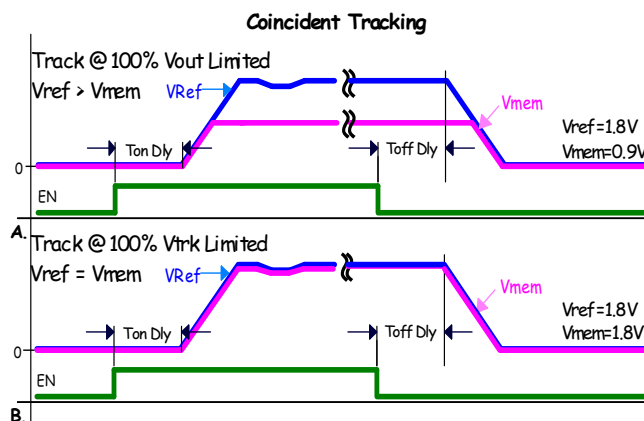

FIGURE 22. COINCIDENT TRACKING
voltage Figure 22 (A).
- Track at 100% VTRK limited. Member rail tracks the reference at the instantaneous voltage value applied to the VTRK pin Figure 22 (B).
The configuration settings for Figures 22 and 23 are shown in Tables 11 through 14. In each case the reference and member rise times are set to the same value.
TABLE 11. TRACKING CONFIGURATION (Figure 22 (A))
TABLE 12. TRACKING CONFIGURATION (Figure 22 (B))